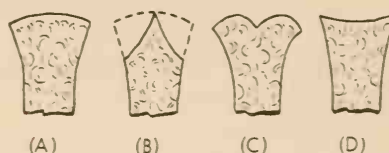
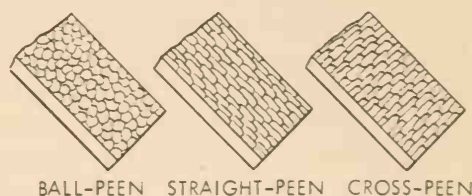
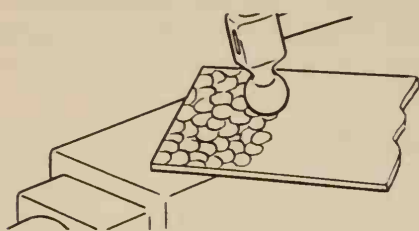

Fig. 4-74. Suggested end designs for band iron. (A) Fan shaped; (B) Arrow head; (C) Fish tail; (D) Flared.
Fig. 4-75. Suggested surface decorations for band iron.
Fig. 4-76. Peening the surface of metal.
3. Cut the stock to the correct length. Decorate the surface and the ends of the stock as desired. See Fig. 4-74, and Fig. 4-75. Select the bending device and clamp it in a vise or to a bench, Fig. 4-67.
The ends of band iron can be made attractive and their appearance improved by grinding, filing, cutting, or hammering. Some possible shapes are shown in Fig. 4-74. To make a shape like (b), first lay out the design on the end of the metal.
of the metal to be peened or hammered. Select the hammer that will produce the desired texture, Fig. 4-75. Holding the metal with one hand, place it on the surface of a flat bench plate or anvil, Fig. 4-76. Strike the metal with firm, even blows, that touch one another. Do not pound the metal so hard that it stretches. Keep the blows firm and evenly spaced, working from one edge to the other. Continue this procedure, working from one end